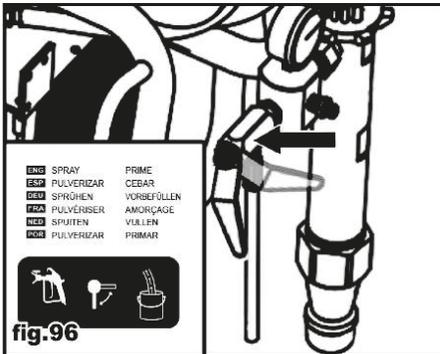

fig.96
-Turn "prime/spray" switch to "prime", this will keep storage fluids in the unit (fig.96)